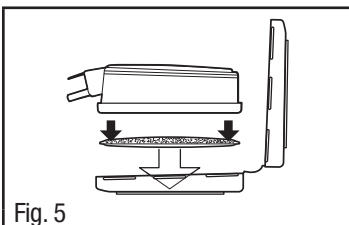

Fig. 5
1. Orient one filter in the larger half of the filter retainer so the shape of the filter aligns with the shape of the filter retainer. Ensure the printed side of the filter is facing down (Fig. 5).